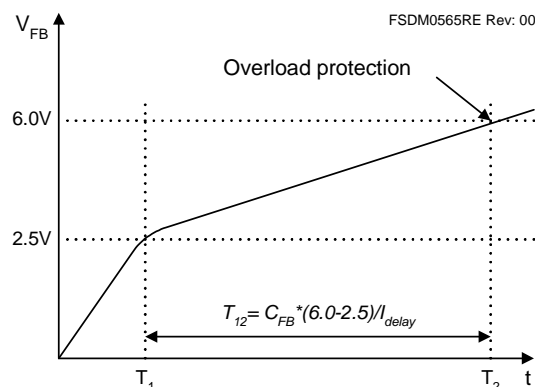

Figure 20. Overload Protection
3.1 Overload Protection (OLP): Overload is defined as the load current exceeding a pre-set level due to an unexpected event. In this situation, the protection circuit should be activated to protect the SMPS. Even when the SMPS is in normal operation, the overload protection circuit can be activated during the load transition. To avoid this undesired operation, the overload protection circuit is designed to be activated after a specified time to determine whether it is a transient situation or a true overload situation. Because of the pulse-by-pulse current limit capability, the maximum peak current through the SenseFET is limited, and therefore the maximum input power is restricted with a given input voltage. If the output consumes beyond this maximum power, the output voltage (V_O) decreases below the set voltage. This reduces the current through the opto-coupler LED, which also reduces the opto-coupler transistor current, thus increasing the feedback voltage (V_{FB}). If V_{FB} exceeds 2.5V, D1 is blocked and the 3.5 μ A current source starts to charge C_B slowly up to V_{CC} . In this condition, V_{FB} continues increasing until it reaches 6V, when the switching operation is terminated, as shown in Figure 20. The delay time for shutdown is the time required to charge C_B from 2.5V to 6.0V with 3.5 μ A. A 10 ~ 50ms delay time is typical for most applications.